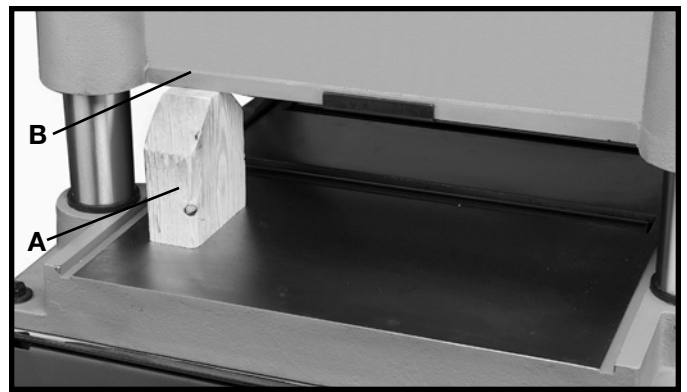

Fig. 49
1. Place gage block (A) Fig. 49, on table directly under front edge of head casting (B) as shown. Lower head casting until front edge of head casting (B) just touches the top of the gage block.